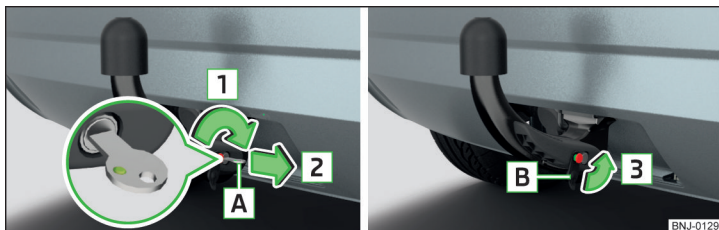

Fig. 248 Secure the lock and remove key / place cap on lock
- ▶ Turn key **A** in the direction of arrow **1** so that the green marking is pointing upwards » Fig. 248.